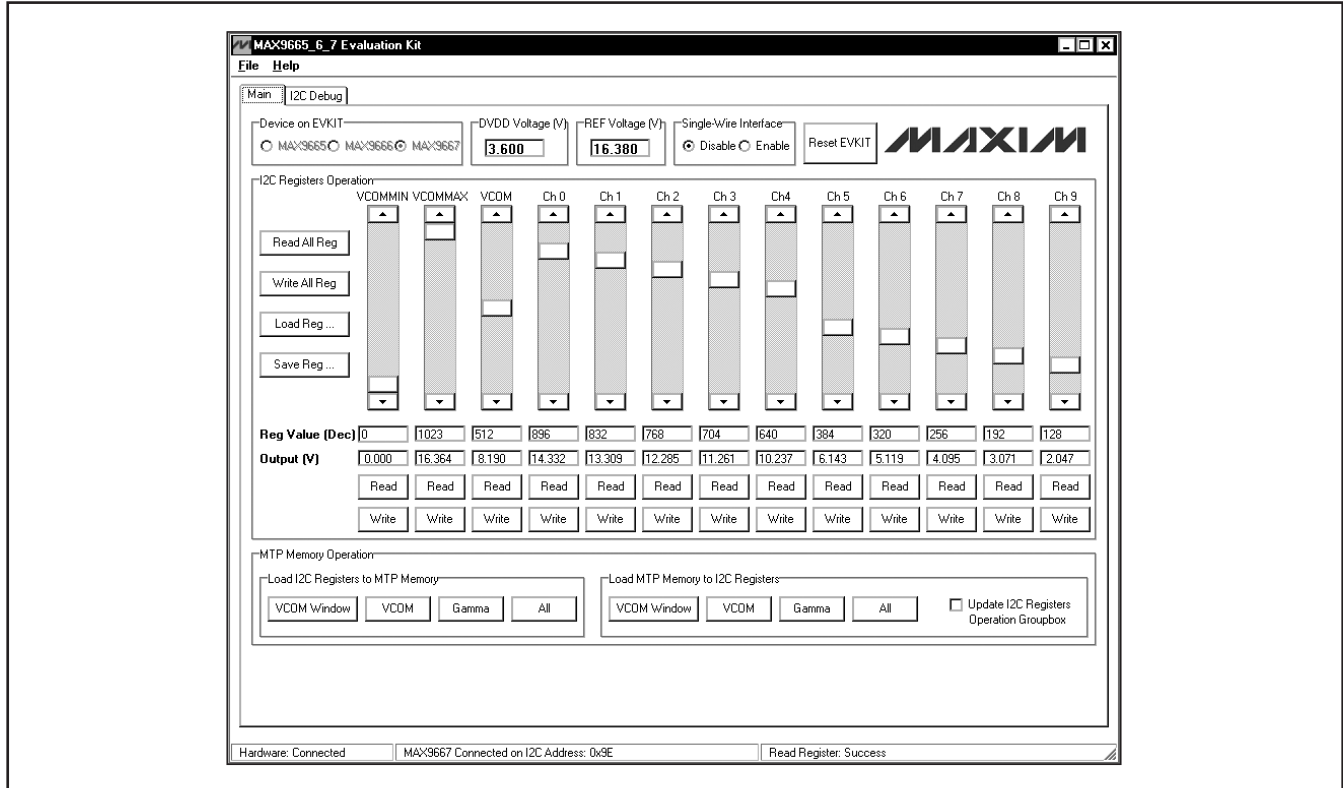

Figure 1. MAX9667 Evaluation Software (Main Tab)
- 7) The EV kit software main window appears, as shown in Figure 1. Verify that the message **Hardware: Connected** is displayed on the status bar at the bottom of the software main window.
- 8) Measure the DVDD and the REF voltages with the voltmeter and type the values in the **DVDD Voltage (V)** and **REF Voltage (V)** edit boxes, respectively. Press the Enter key when finished.
- 9) Measure the buffer output voltages on the J1 header. Verify that they are close to the voltages shown in the **Output (V)** edit boxes for each channel.
The MAX9667 EV kit evaluation software's main window is shown in Figure 1. There are two tabs in the main window, **Main** and **I2C Debug**.